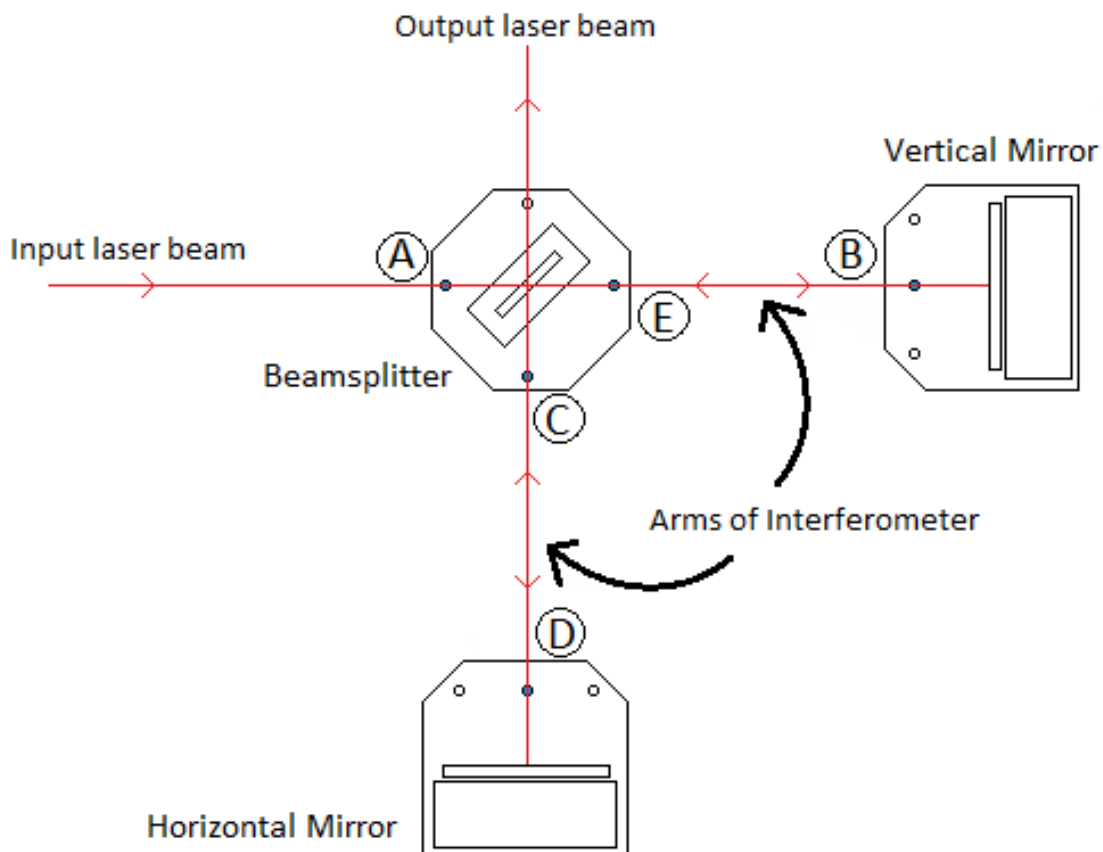

Figure 4: Michelson Set Up (Interferometer Arms)
-Figure 4 below represents part of the Michelson set up in a birds eye view. The locations (A, B, C, D, and E) refer to the centre holes found in the mounts of the mirrors and beamsplitter where alignment paddles can be placed.